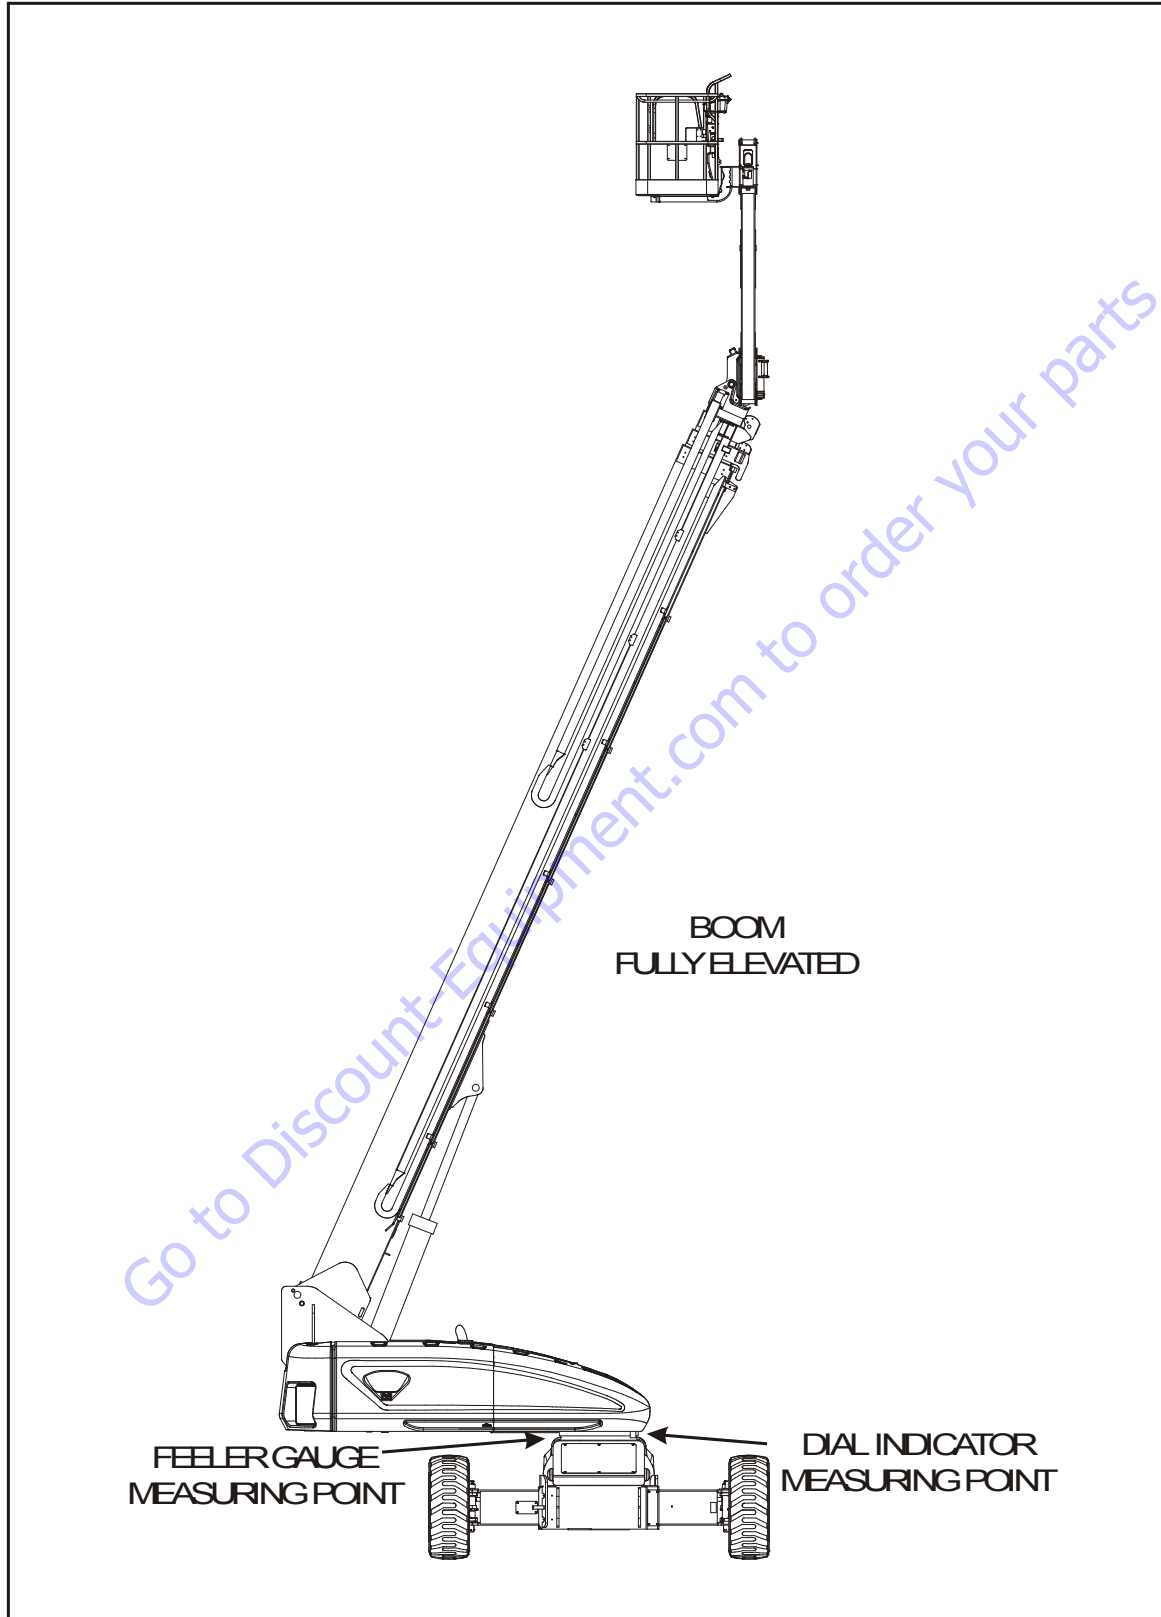

Figure 3-63. Swing Bearing Tolerance Boom Placement - Sheet 1 of 2
- a. Fully elevate the main boom. (See Figure 3-63.)
- b. At the position indicated on Figure 3-63., try to insert a 0.0015 feeler gauge between the bolt and hardened washer at the arrow indicated position.
1. From the underside of the machine, at rear center, with the main boom fully elevated and fully retracted, as shown in Figure 3-63., Swing Bearing Tolerance Boom Placement - Sheet 1 of 2, set up a magnetic base dial indicator as shown below and set the indicator to 0 (zero).